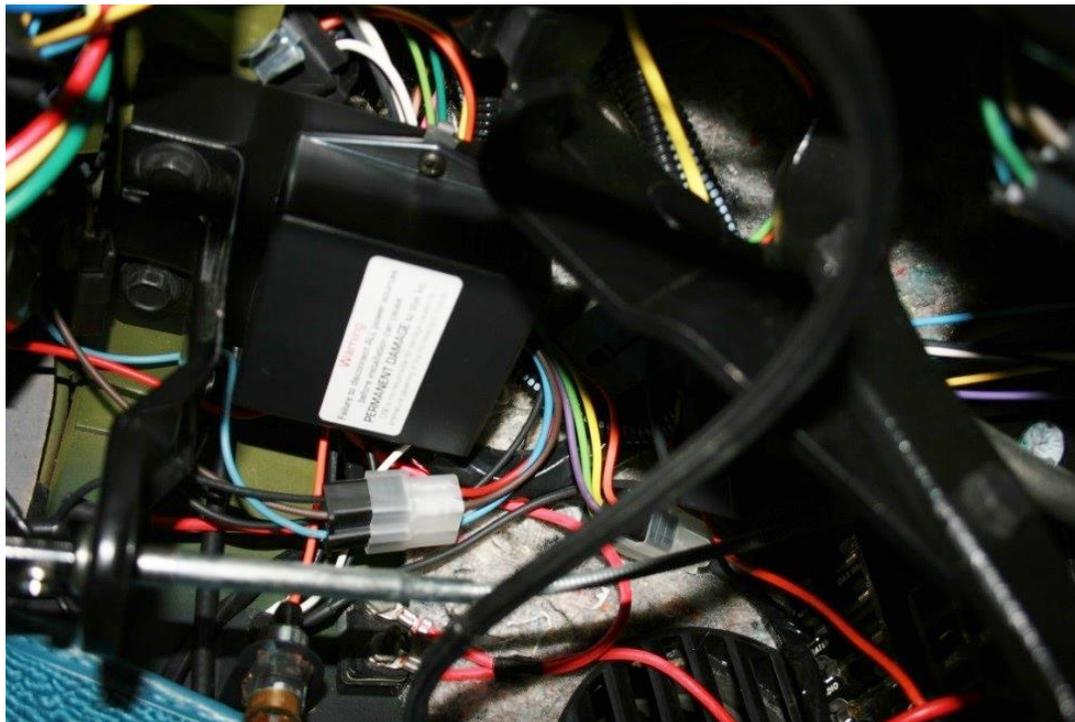

Figure 14 - Mount Control Module
29. Install the headlight door control module mounting bracket under the hood release cable bracket and reinstall the bolts (Figure 14). If the hood release cable is not mounted through these holes, use the included 5/16"-18 x 3/4"L" Flange Head Hex Cap Screws to mount the module in the position.